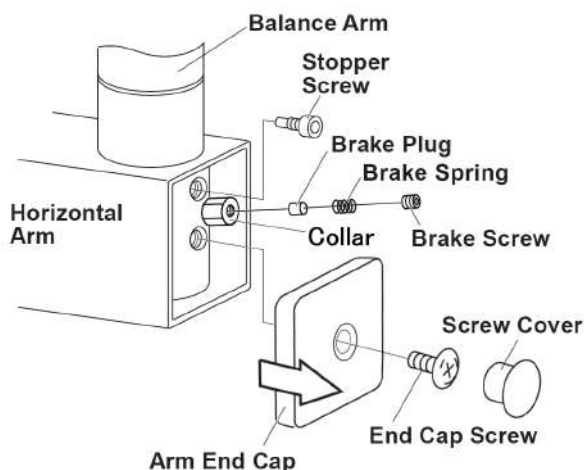

Fig.3-14B Attaching Balance Arm to Horizontal Arm
- Remove the arm end cap from horizontal arm. Insert the stopper screw into upper threaded hole inside horizontal arm and tighten securely. (Fig. 3-14B)
- Insert the brake plug, brake spring and brake screw into the horizontal arm collar. (Fig. 3-14B) Do not fully tighten.
- Set the arm end cap at the original place and fix it with end cap screw. Put the screw cover on it. (Fig.3-14B)
If the end of the horizontal arm shown in position #1 is pitched below level, then the tube head will drift away from the wall. If the end of the horizontal arm in position #1 is pitched above level, then the arm will require only minimum adjustment of the brake screw. (Fig.3-14B)